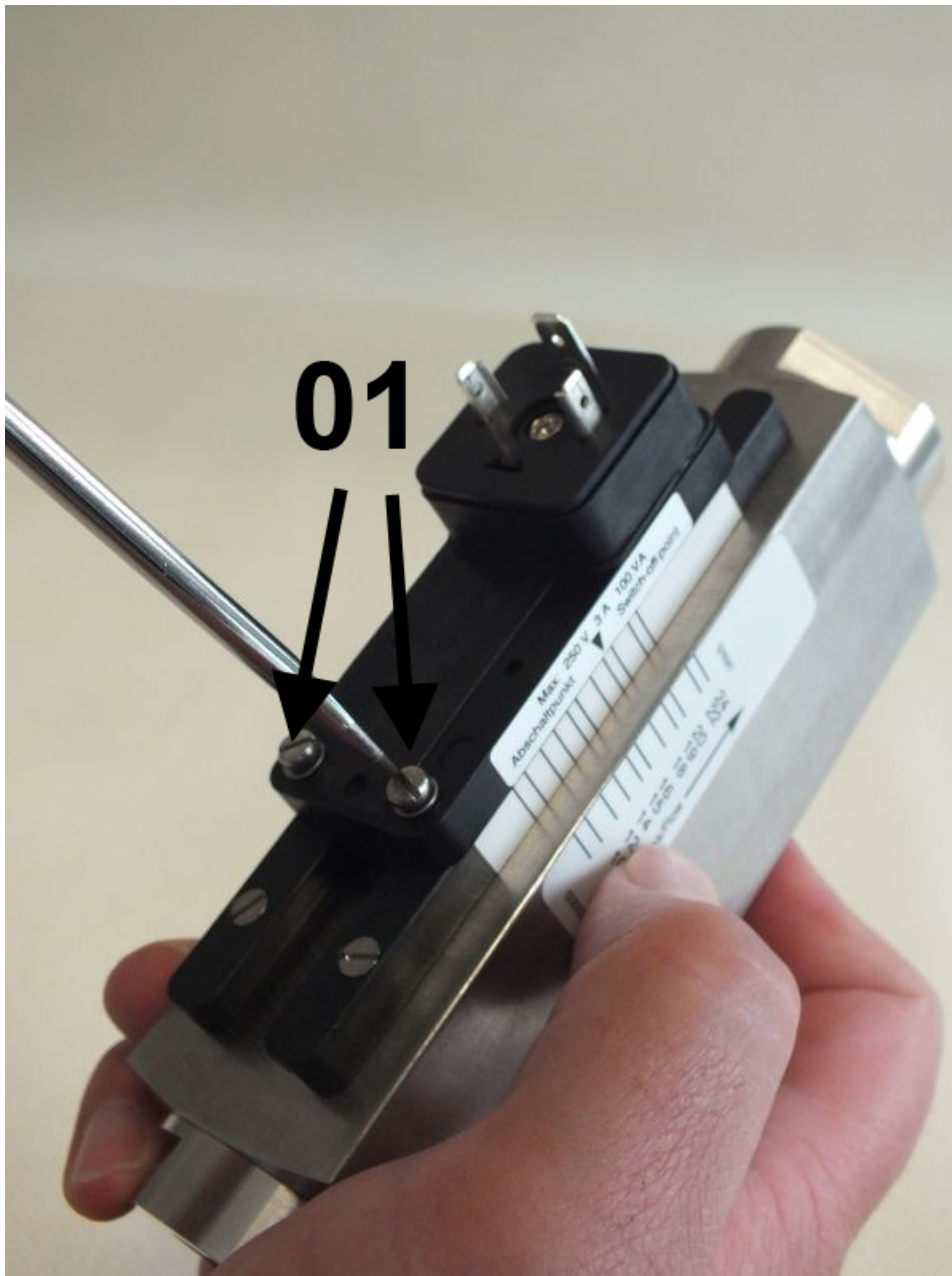

Fig. 68: Loosen set screws
3. Using a flat-bladed screwdriver (Fig. 68/01) loosen the set screws of the switch contact until it can move freely.
11. ➤ Tighten the set screws (*Fig. 68/01*) observing the proper tightening torque of the screws (➔ *Chapter 11.1 "Tightening torque" on page 98*)